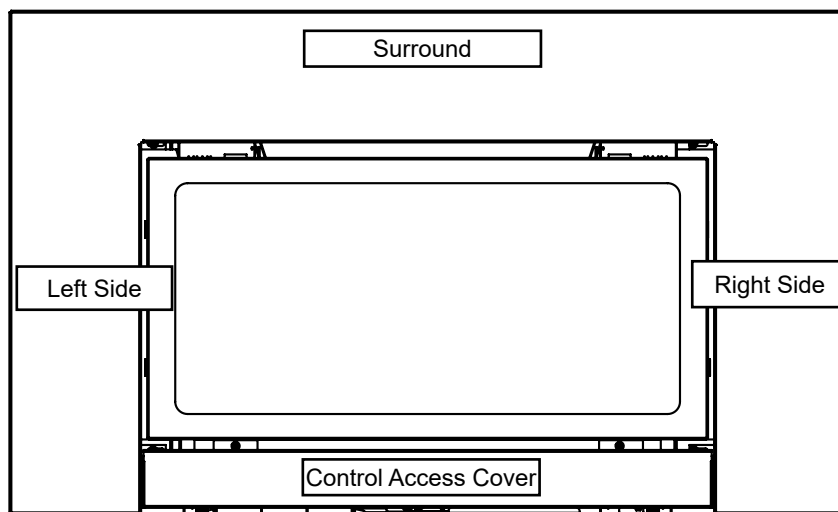

Figure 6.2.01:
*Left and right side references in this manual correspond with the sides identified in **Figure 6.2.01**.